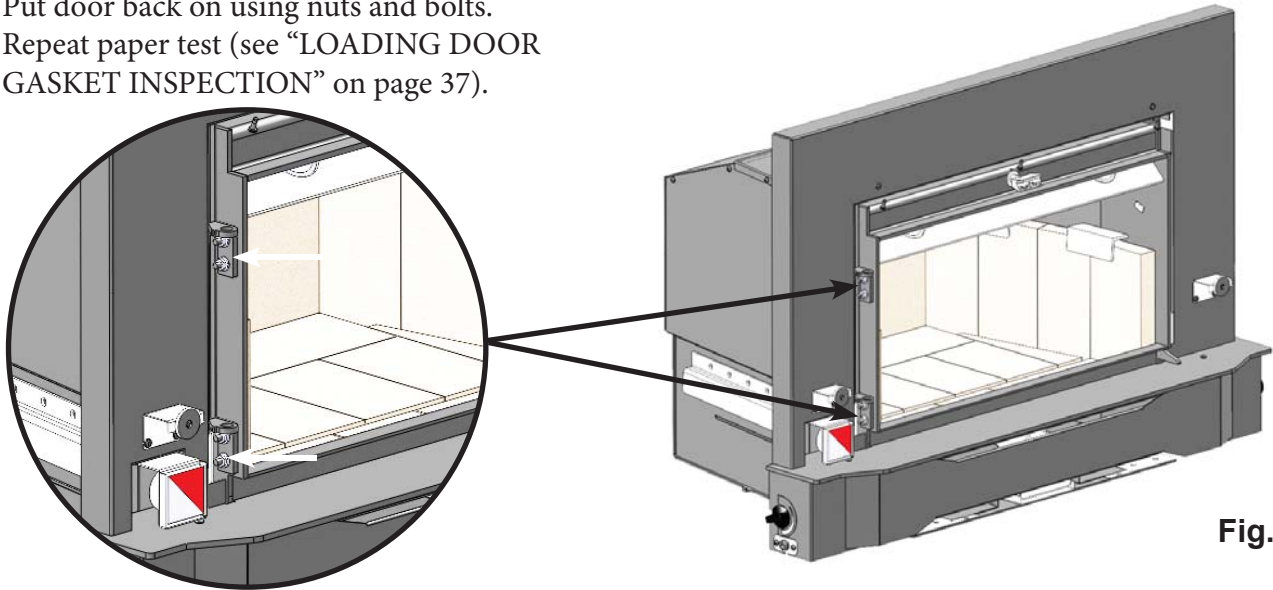

Fig. 24
4. Loosen the four door hinge nuts using a 7/16" wrench. Slide door hinges in to tighten door seal and out to loosen door seal. (**Fig. 24**)